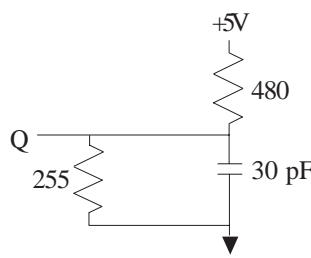

Fig. 1
Output load.....	See figures 1 & 2
- Test conditions as specified with the output loading as shown in Fig. 1 unless otherwise noted.